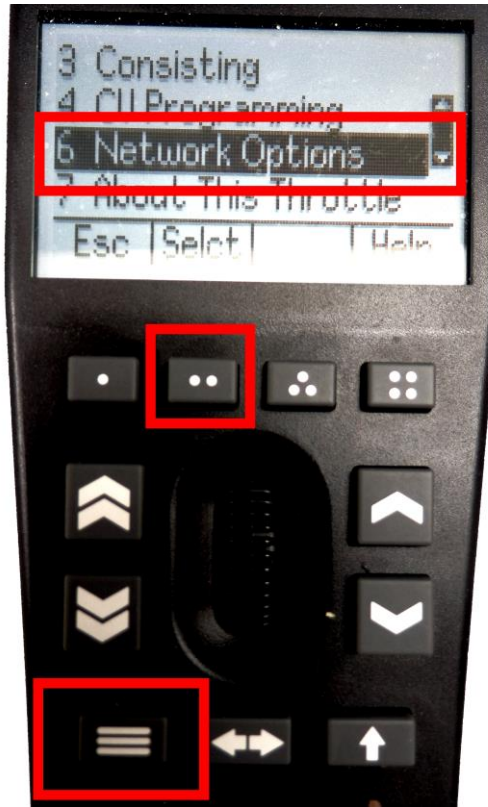

Figure 20 Selecting the Network Options menu on the UWT-100
- (2) Press the Menu button on your UWT, then use the up/down chevron buttons to choose Network Options, then press the Selct button [..] to open the Network menu as in Figure 20.